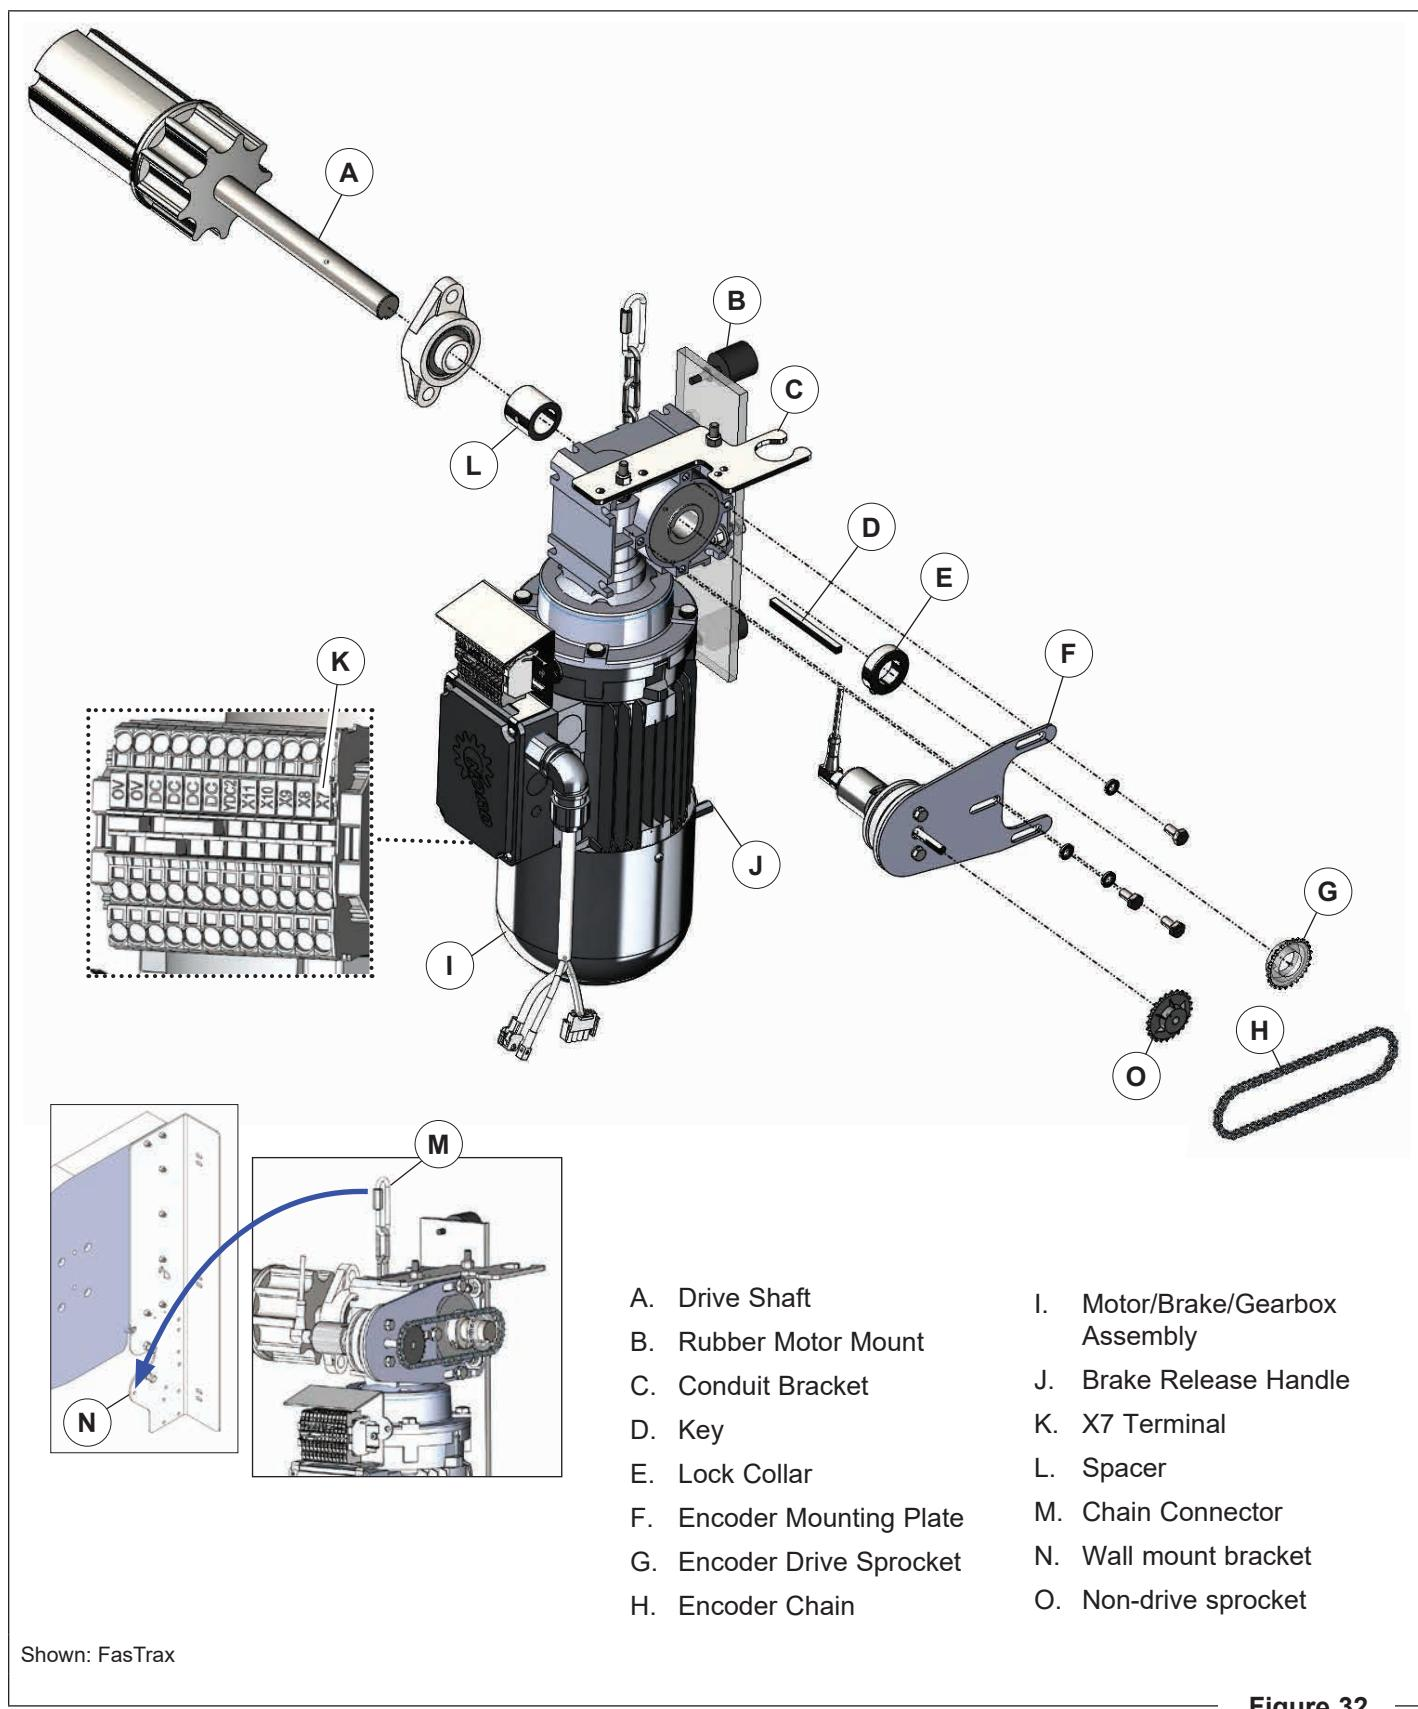

Figure 32
- X7 terminal (I) can be used for activation devices.
10. Fasten chain connector (M) from gearbox to hole (N) in wall mount bracket (Figure 32).